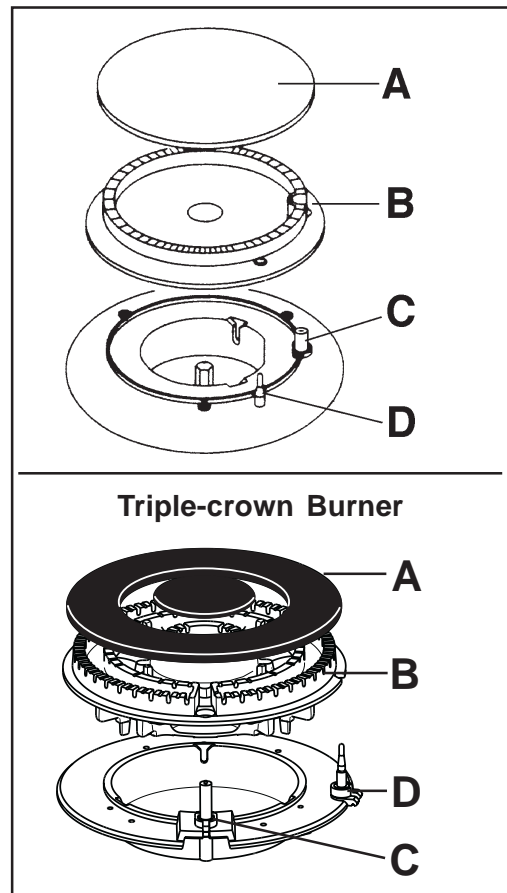

Fig. 1
- upon ignition, keep the knob pushed down about 5 seconds. This will allow the "thermocouple" (Fig. 1, D) to be heated and the safety device to be switched off, otherwise the gas supply would be interrupted.
If you cannot light the flame even after several attempts, check the "cap" and "crown" (Fig. 1, A-B) are in the correct position.
The electric ignition is obtained through a ceramic and metal electrode (Fig. 1 - letter C). Keep these components very clean, to avoid lighting difficulties, and check that the burner crown holes are not obstructed.